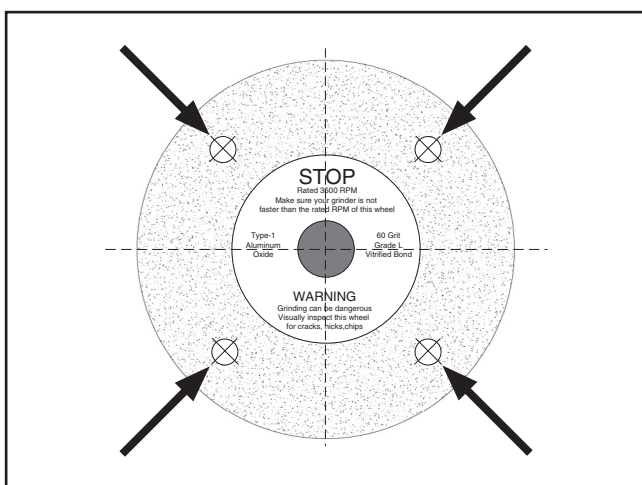

Figure 3. Tapping locations when performing a ring test.
3. At the spots shown in **Figure 3**, gently tap the wheel with a light non-metallic device such as the handle of a screwdriver or a wooden mallet.